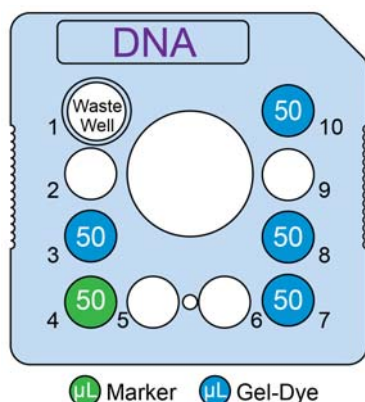
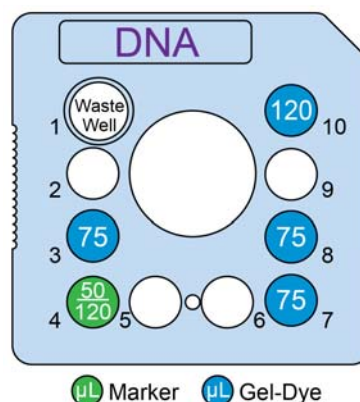

Figure 3. Reagent placement for Low-throughput (up to 48 samples).
Figure 4. Reagent placement for High-throughput (up to 384 samples).
- 5 Using a reverse pipetting technique, add Gel-Dye solution to chip wells 3, 7, 8 and 10 as shown in Figure 3 (Low-throughput) or Figure 4 (High-throughput).
- 6 Add DNA Marker (green cap ●) to chip well 4 as shown in Figure 3 (Low-throughput) or Figure 4 (High-throughput). For the High-throughput chip preparation add 50 μ L DNA Marker for 96-well plates and 120 μ L DNA Marker for 384-well plates or multiple 96-well plate analysis.